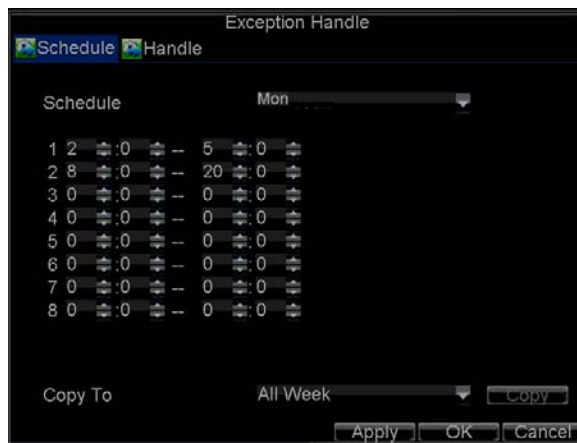

Figure 16. Schedule Settings for Video Loss Detection
5. Click the *Handle* button to enter the Exception Handle menu, shown in Figure 16.